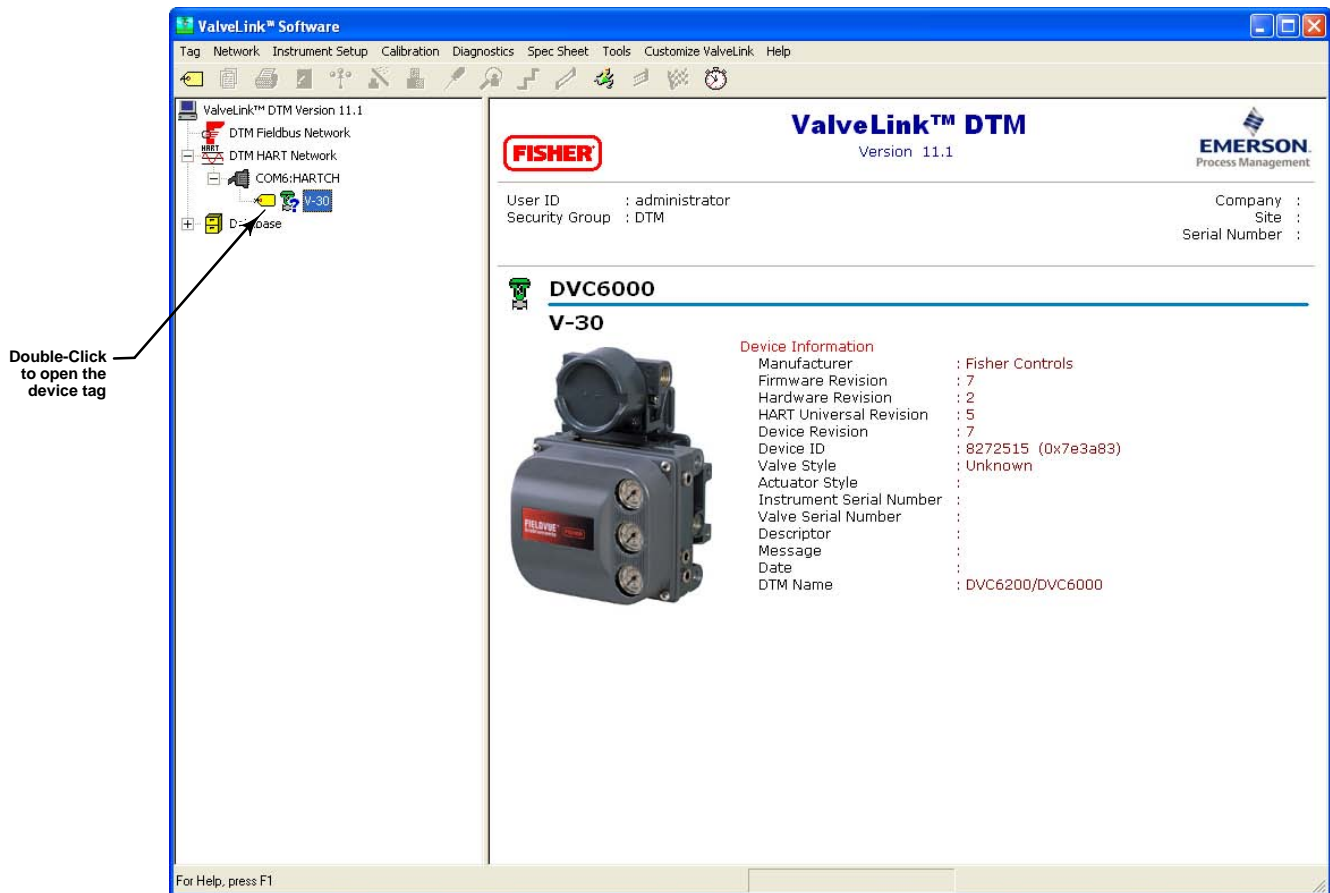

Figure 4-7. ValveLink DTM
Step 7: The ValveLink DTM will launch in a new window. All devices currently connected in the FDT frame application will show in the tree menu to the left of the ValveLink DTM window, as shown in figure 4-7. Double-click the device to open the device tag.